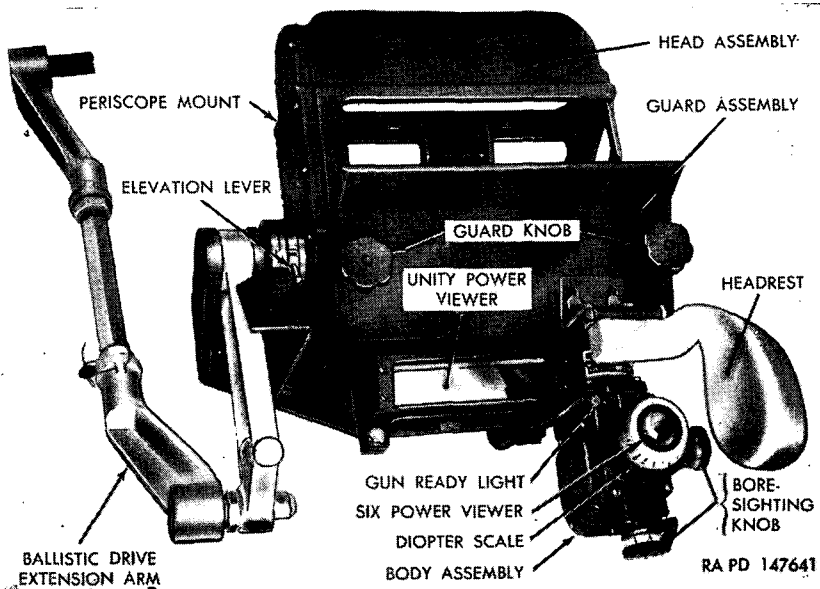
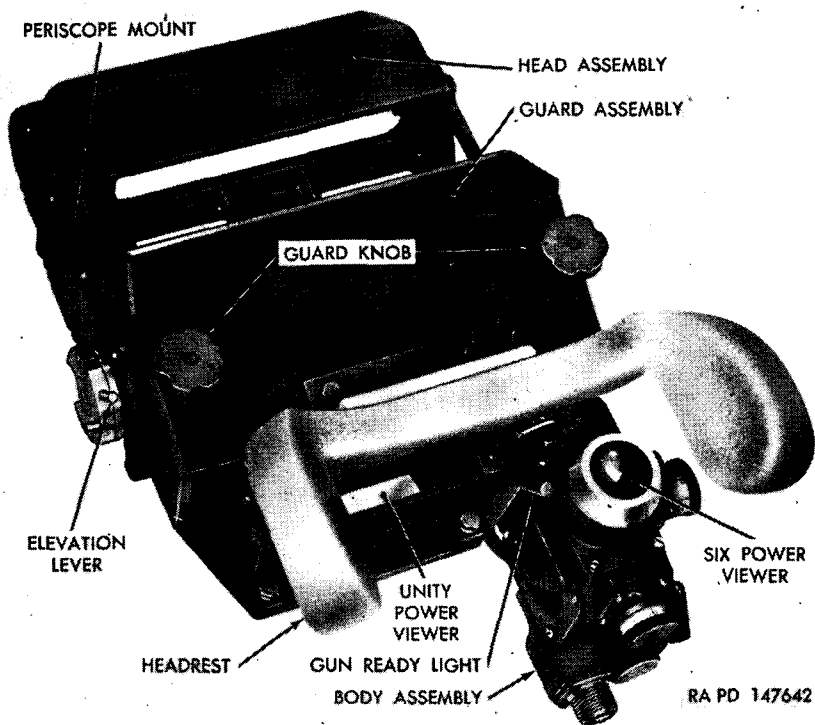

Figure 47. Periscope T35 installed in commander's periscope mount T177.
Figure 48. Periscope T35 installed in gunner's periscope mount T176.
- (1) *General.* The periscope T35 (figs. 47 and 48) is a monocular-type instrument having two built-in optical systems: with a 33-degree 18-minute vertical and 7-degree 9-minute horizontal field of view for wide, close-in vision of the terrain and a six-power system with an 8-degree field of view for sighting on distant targets. The periscope is composed of two separate parts: a head assembly (fig. 47) which is supported in the periscope mount by two clamping screws; and a body assembly (figs. 47 and 49) which is secured to the periscope mount by four screws.
- (2) *Commander's periscope.* The commander's periscope T35 serves as a target-designating device. It is supported in the commander's periscope mount T177 (fig. 47). An elevation lever assembly couples the periscope to an arm and connector on the commander's periscope mount which in turn is connected to an extension arm on the ballistic drive. Thus the commander's periscope moves with the gunner's periscope and the gun as the gun is elevated or depressed.
- (3) *Gunner's periscope.* The gunner's periscope T35 serves as a secondary sight for fire control. It is supported in the gunner's periscope mount T176 (fig. 48). An elevation lever assembly couples the periscope directly to the shaft of the ballistic drive. Thus the gunner's periscope moves with the commander's periscope and the gun as the gun is elevated or depressed.
- (1) *Elevation lever.* An elevation lever assembly (figs. 47 and 48) is provided so that the line of sight of the periscope may be manually elevated 22° or depressed 18° from zero elevation. However, when the periscope is installed for secondary direct fire sighting, the maximum elevation is 20° while the maximum depression is 14° . The lever is spring loaded to allow it to return to the level line of sight or, if installed for secondary direct fire, to the same elevation as the gun.
a. **DESCRIPTION.** The gunner's periscope mount T176 (fig. 48) and the commander's periscope mount T177 (fig. 47) are used to support periscope T35. Both mounts are attached to the turret roof. A guard (figs. 47 and 48) is provided at the rear of each mount to protect the observer should the periscope head assembly be hit. Two knobs secure the guard to the mount. The gunner's mount has a full headrest; the commander's mount a half headrest. An arm and connector on the left side of the commander's mount connects the elevation lever assembly of the periscope T35 to the extension arm on the ballistic drive. An elevation level assembly on the commander's mount is used to level the mount.
b. **GUN READY LIGHT** (figs. 47 and 48). A cable from the loader's safety panel is connected to the receptacle at the base of the periscope